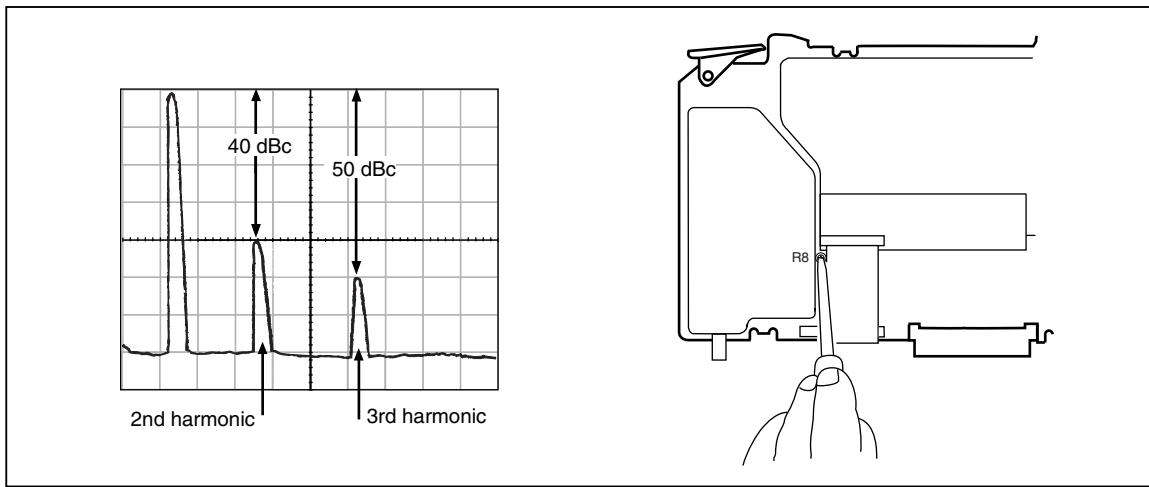

Figure 6-17. Leveled Sine Wave Harmonics Adjustment
3. Use the Peak Search function of the spectrum analyzer to find the reference signal. The spectrum analyzer will show the fundamental and second and third harmonics. The harmonics must be adjusted so that the second harmonic is at 40 dBc and the third harmonic is typically at 50 dBc as shown in Figure 6-17.